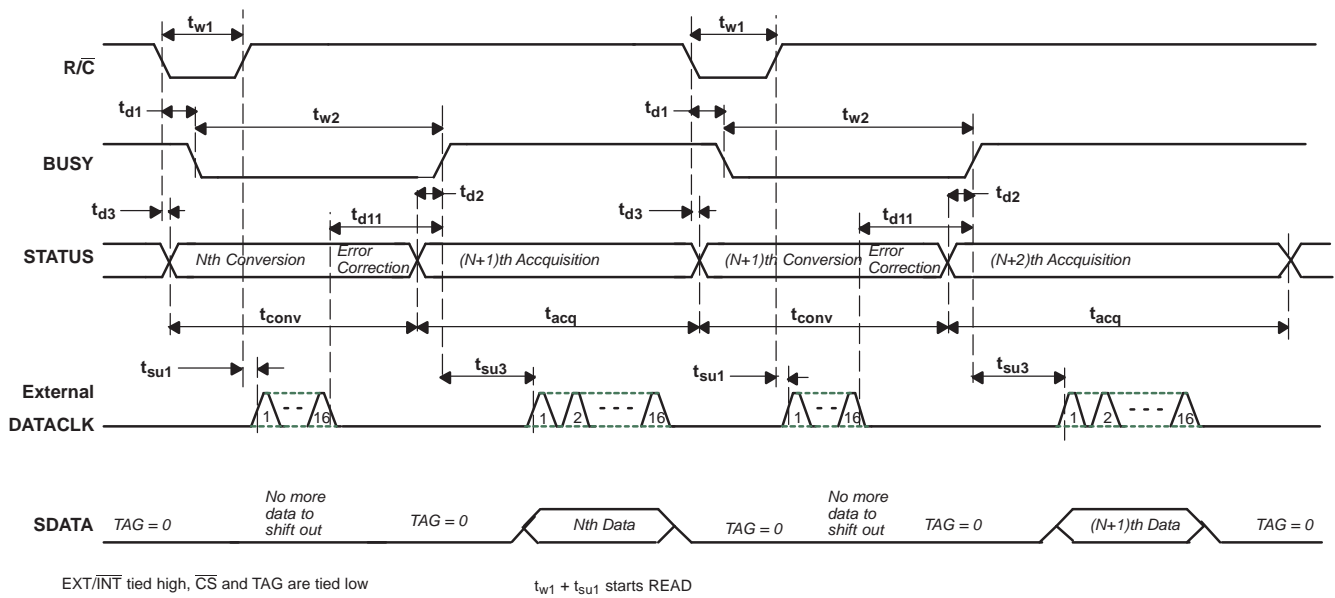
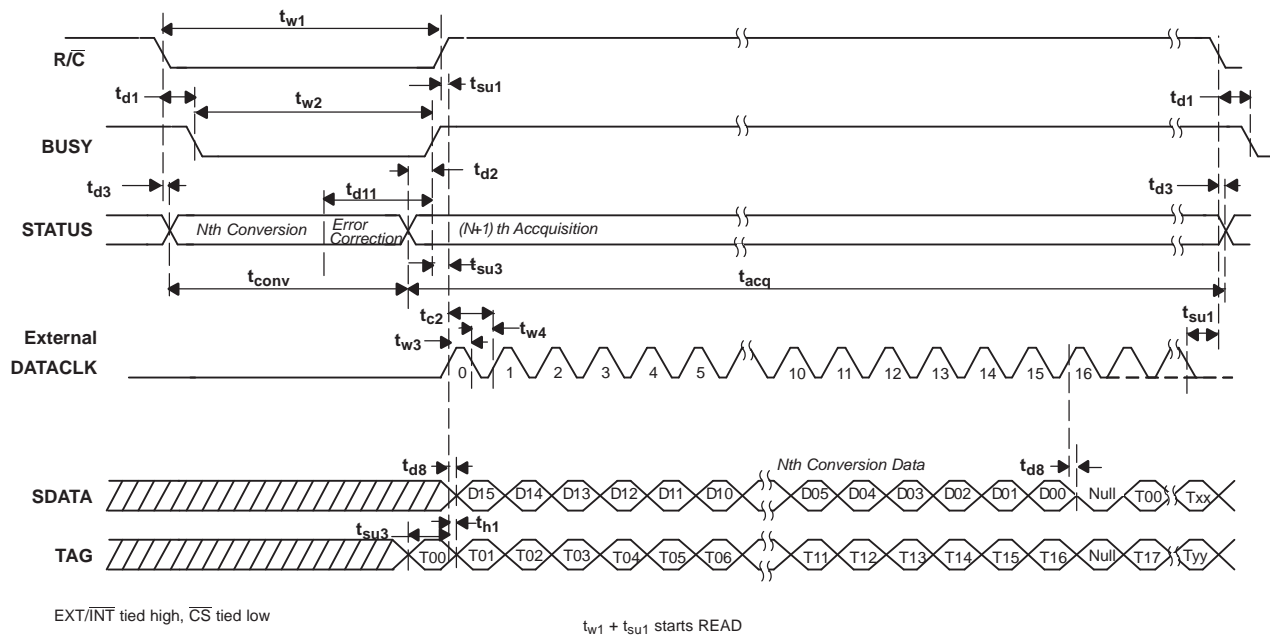

Figure 37. Basic Conversion Timing - External DATACLK
Figure 38. Read After Conversion (Discontinuous External DATACLK)
(1) See Figure 37, Figure 38, and Figure 39 for constraints on data valid from conversion $N-1$.
After conversion N is completed and the output registers have been updated, $\overline{\text{BUSY}}$ (pin 24) goes high. With $\overline{\text{CS}}$ low and R/ $\overline{\text{C}}$ high, valid data from conversion N is output on SDATA (pin 19) synchronized to the external data clock input on DATACLK (pin 18). The MSB is valid on the first falling edge and the second rising edge of the external data clock. The LSB is valid on the 16th falling edge and 17th rising edge of the data clock. TAG (pin 20) inputs a bit of data for every external clock pulse. The first bit input on TAG is valid on SDATA on the 17th falling edge and the 18th rising edge of DATACLK; the second input bit is valid on the 18th falling edge and the 19th rising edge, etc. With a continuous data clock, TAG data is output on SDATA until the internal output registers are updated with the results from the next conversion. Refer to Table 6 and Figure 38.